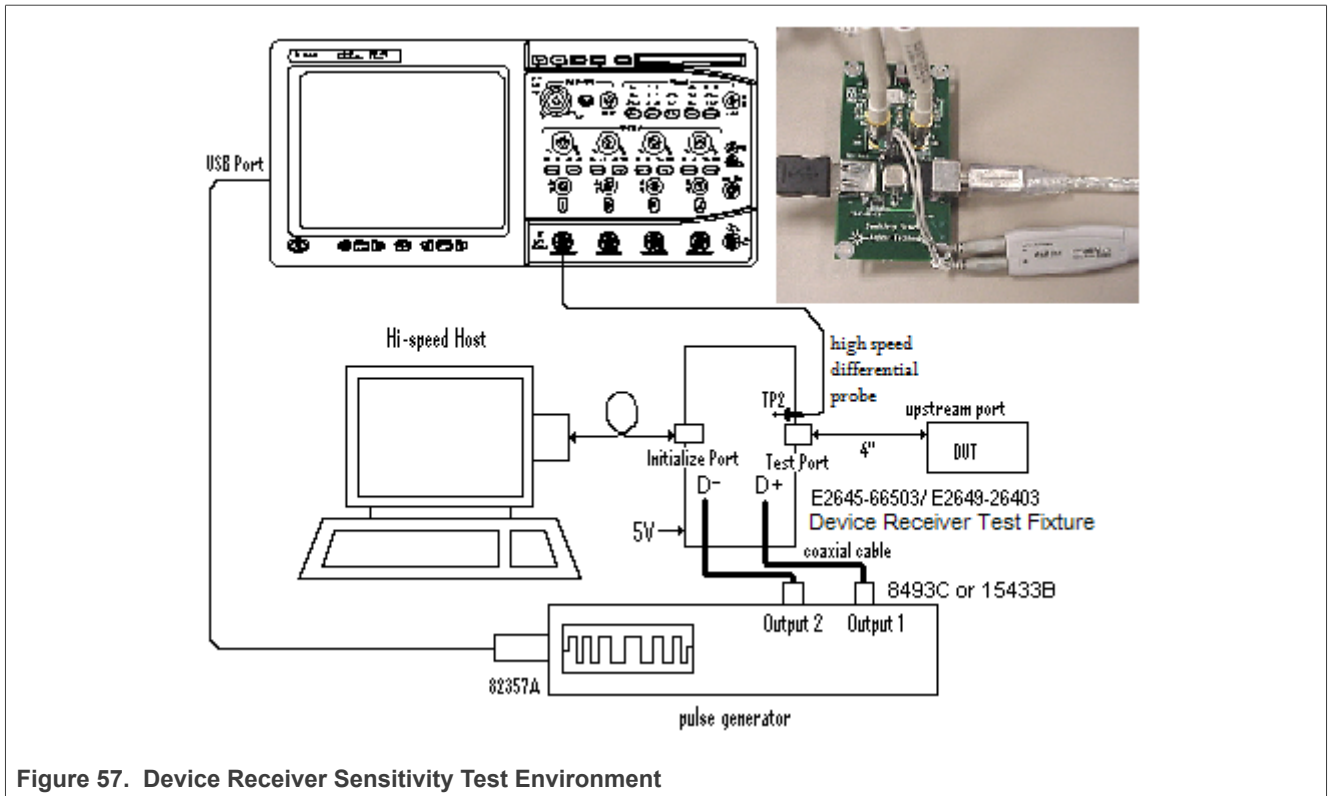

Figure 57. Device Receiver Sensitivity Test Environment
2. Connect the equipment and test fixture as shown in Figure 57 below.